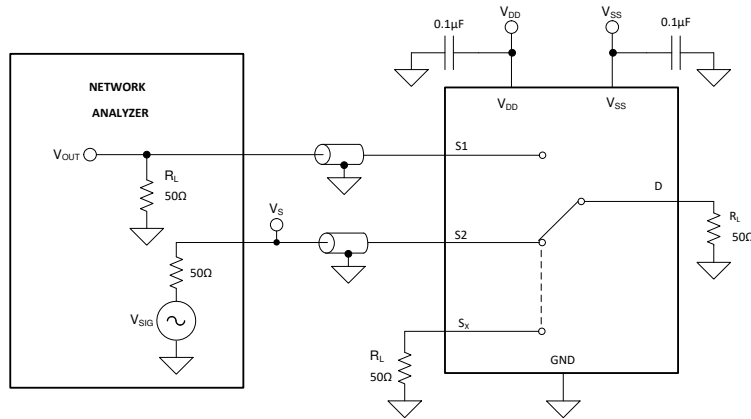

**Figure 7-8. Off Isolation Measurement Setup**
Off isolation is defined as the ratio of the signal at the drain pin (D) of the device when a signal is applied to the source pin (Sx) of an off-channel. Figure 7-8 shows the setup used to measure off isolation. Use the off isolation equation to compute off isolation.